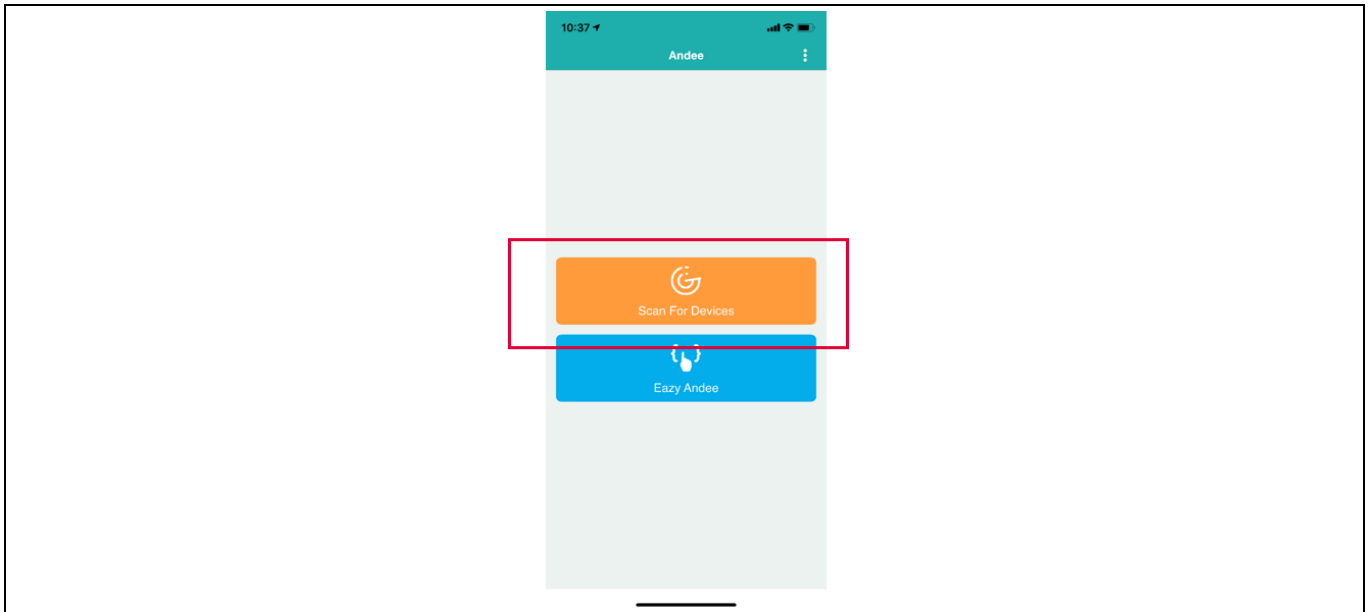

Figure 33 Andee app – scan for devices
15. Launch the Andee app (can be installed for free from the Apple App Store or Google Play Store) on your smart device. In the app, click “Scan for Devices” (Figure 33).